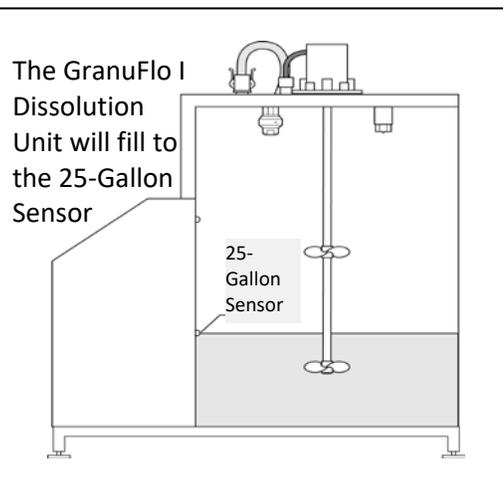

Figure 20
3. Once the 25-Gallon Sensor is reached, the control panel will automatically step to the first RECIRCULATE Operation (Figure 20). With your safety glasses on, lift the Access lid and check for correct Spray Ball operation. See figure 4, pg 12, for the illustration of correct or incorrect Spray Ball operation.